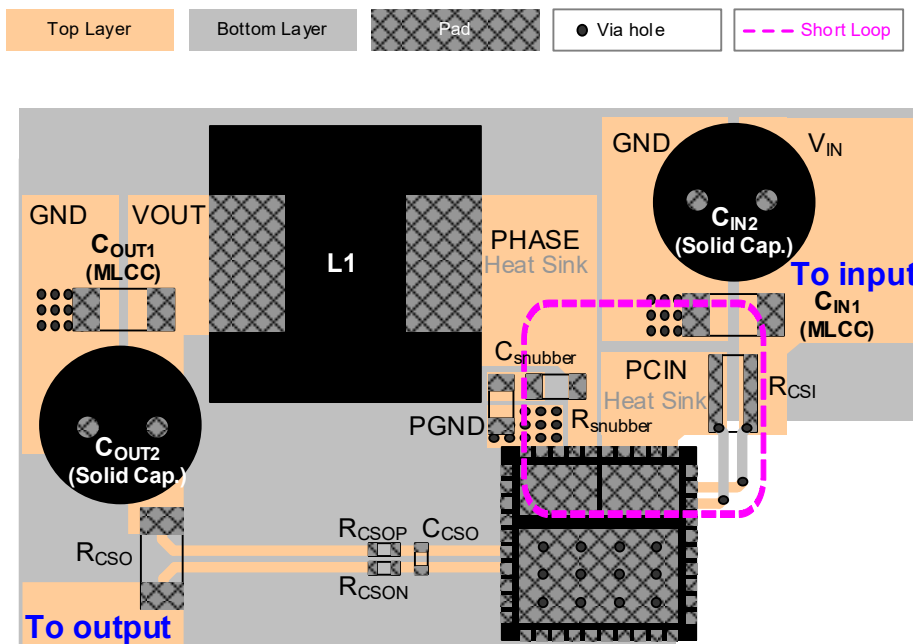

Figure 7. Recommended PCB Layout of the Power Stage
- Figure 7 is a recommended power component placement of the PWM Buck power-stage. For better EMI performance, the power loop “ $C_{IN1} \rightarrow R_{CS1} \rightarrow$ Internal Buck MOS \rightarrow PGND to C_{IN1} ” must be as short as possible to minimize the switching noise. It is necessary to place several MLCCs (C_{IN1} , 10 to $0.1\mu\text{F}/50\text{V}$, X5R/X7R) close to RTQ7883A-QT to absorb high frequency switching EMI noise. For reducing the input and output voltage ripples during heavy load operation, it is recommended to add more MLCCs or solid capacitor for input and output capacitors. Moreover, the RTQ7883A-QT integrated buck power MOSFETs, it needs PCIN and PHASE PCB areas as heat sink for high-side and low-side MOSFETs heat dissipation.